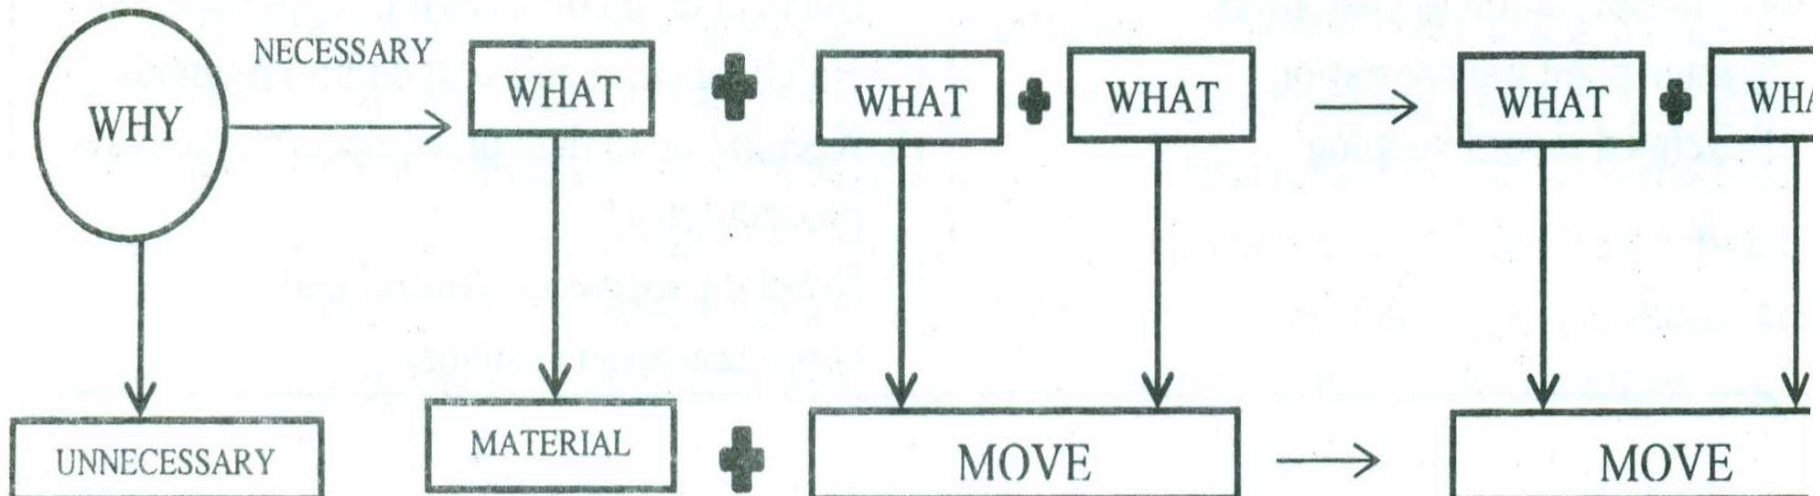

Figure 3.2: Material Handling Equation and Factors to Consider in a Material Handling Analysis
- Figure 3.2 shows that there are six major handling questions to be answered in searching for solution to a material handling problem.